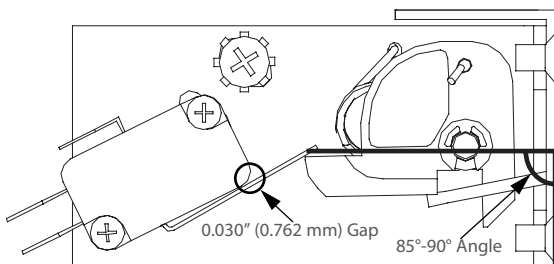

Figure 38: Switch Detail and Proper Alignment
Use the following procedure to adjust the primary, secondary, and monitor switches. The secondary switch is located on the left side hinge assembly and the monitor switch is located on the right side hinge assembly. The primary switch is located on the upper-left corner of the oven and utilizes an actuator (attached to the door) and toggle assembly (attached to the chassis) to engage (Figure 38). See page A-8 of the Appendix for switch assembly detail.
2. If adjusting the primary switch, confirm the primary switch's latch toggle is in the correct position (Figure 38).
- a. Visually inspect the latch toggle position and verify it is angled at no less than 85° and no more than 90° in reference to the front flange (oven face). See Figure 38.